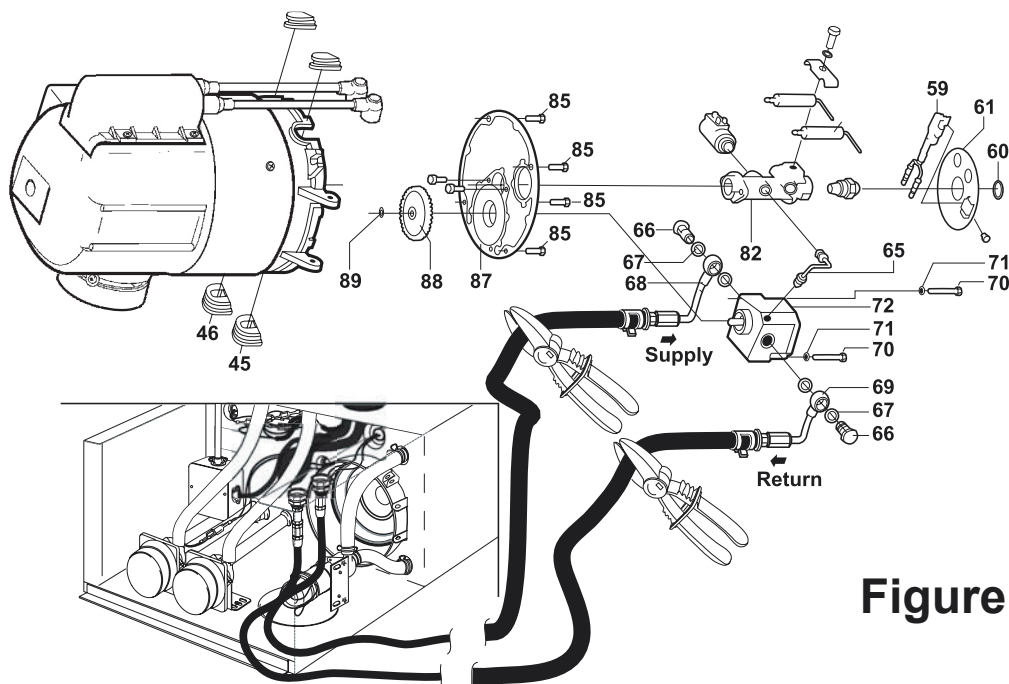

Figure 22
5. Remove the two *Pump Mounting Screws* that secure the *Fuel Pump* in place, reference item 70 of Figure 22. Turn the *Nozzle Stand Plate* over and remove the *Snap Ring* from the Fuel Pump shaft, using snap ring pliers, reference item 89 of Figure 22. Remove the nylon *Drive Gear* and then the *Fuel Pump*, reference items 88 and 72 of Figure 22.
and secure in place with the four *Nozzle Stand Plate Screws*. Install the new *Grommets* on the *Fuel Return* and *Supply Banjo Pipes* (with the fuel lines attached) and secure the pipes to the *Fuel Pump* with the new *Banjo Bolts* and *Gasket Rings*, reference Figure 22.
NOTE: Reference Figure 22 for the correct order placement of the (4) *Gasket Rings*. Failure to use the new *Gasket Rings*, and/or the correct order placement, could result in a fuel leak.